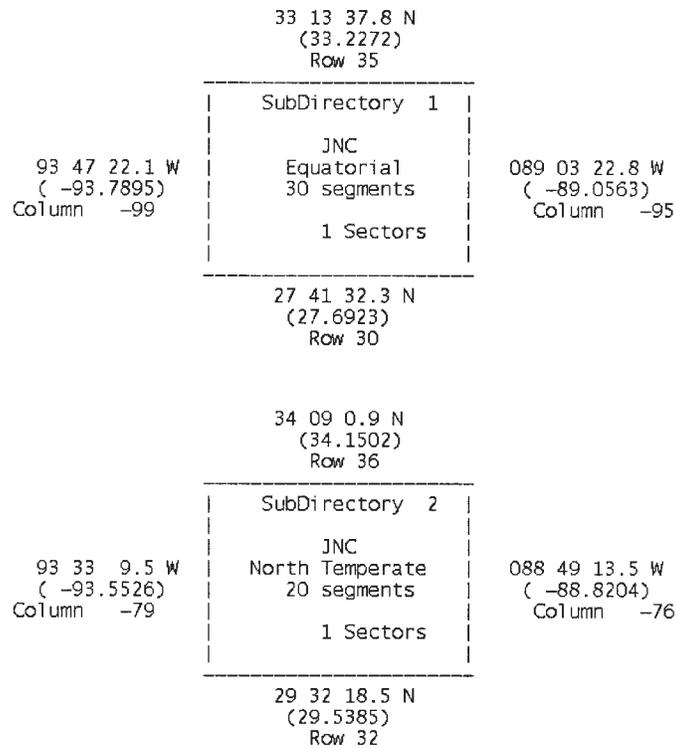

Fig. 32 — Sample AOD summary listing
3.3.6.1.1 Generate AOD Summary — This option generates a printable summary of a previously built AOD (Fig. 32), including current status, date of summary, number of superdirectories used and remaining on the AOD, AOD size in bytes and number of subdirectories written on the AOD. The summary also includes the names of the workstations used to create and write the AOD, AODI composition and version numbers, and date written. A contents section includes additional subdirectory information, such as map scales and zones. The final coverage section provides the minimum and maximum latitude and longitude values – for each subdirectory – that together define the complete area of coverage.
3.3.6.1.3 Generate Append Summary — This option generates a summary of any existing AOD composition, composition in development, or final AODI (Fig. 32). For each zone, scale, and subdirectory in the composition or image file, *AOD Summary* provides the minimum and maximum latitude and longitude, the number of CAC segments defined, and the number of sectors that would be used if the image were written to an AOD. The summary also gives the total number of bytes in the composition.